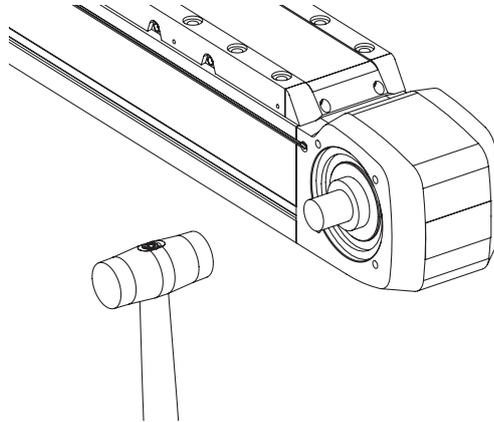

Fig. 6.64 **Inserting the journal in the linear axis HM-B drive block**
- ▶ Make sure that the journal flange lies flat. If necessary, use a light plastic hammer (see Fig. 6.64).